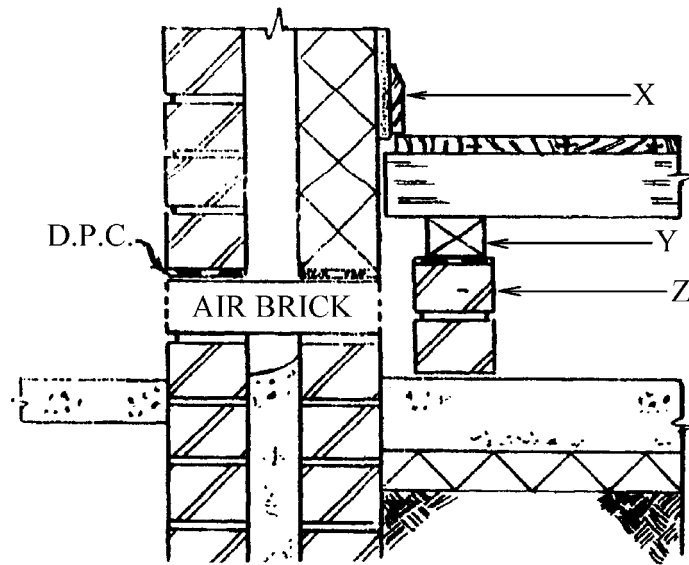

Fig.8
29. Name the components indicated at X, Y, and Z on the vertical section through part of a hollow timber ground floor shown in figure 8.